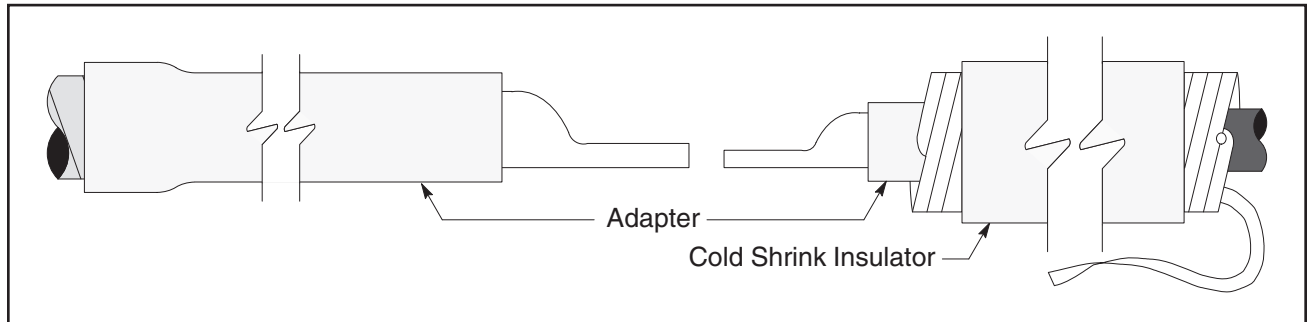

Figure 11
- 8.2 Apply silicone grease to the inside at one end of the adapters. (If necessary grease cables). Slide (grease end first) onto lugs and cables just far enough to clear the lug holes (*Figure 11*).
- 8.3 Slide the Cold Shrink Insulator onto the smallest cable. The direction of the loose core end tab should be where it is most easily removed later (*Figure 11*).